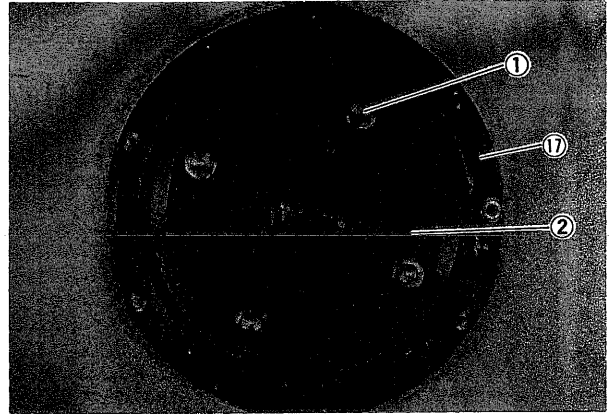

Fig. 6
- (7) Remove bolts (1) and separate disc (17) from coupling (2). Be careful not to lose positioning pin. (Fig. 6)